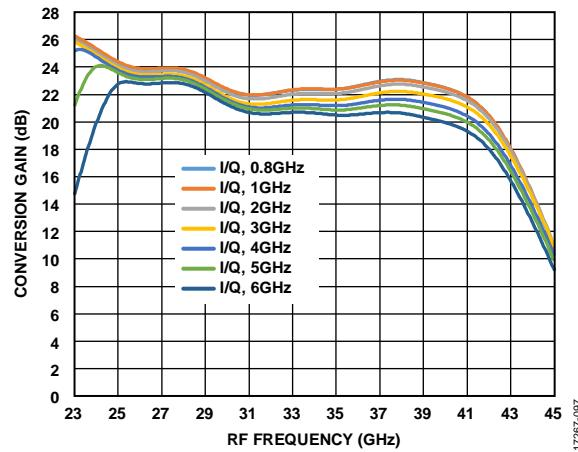
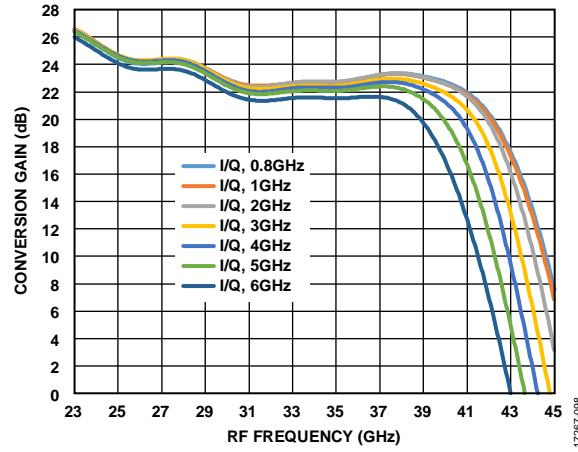

Figure 94. Conversion Gain vs. RF Frequency for Multiple Baseband Frequency Settings (Upper Sideband)
Figure 95. Conversion Gain vs. RF Frequency at Multiple Baseband Frequency Settings (Lower Sideband)
Figure 94 and Figure 95 show the conversion gain vs. RF frequency in I/Q mode for multiple baseband (BB) frequencies ($T_A = 25^\circ\text{C}$, LO = 0 dBm) for upper sideband and lower sideband, respectively.